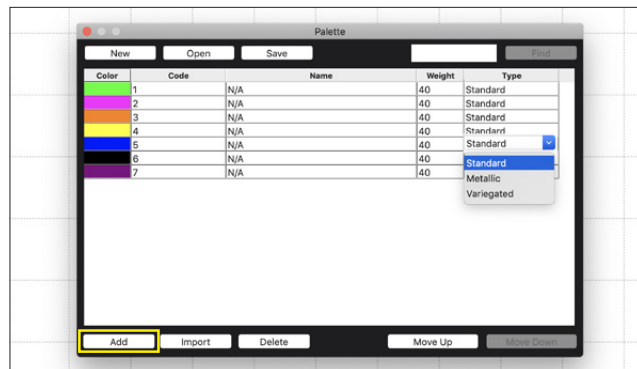

Figure 41
2. Click Add and select the colors you wish to add. Once done, you can name the colors based on the thread color that you wish to match them to. You can also change the weight and the type of thread **See Figure 41.**